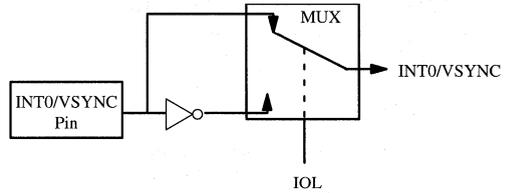
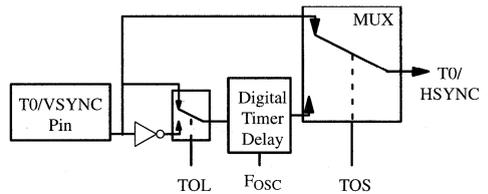

Figure 2. INT0/VSYNC input block diagram
Figure 3. T0/HSYNC input block diagram
- Vsync can generate an interrupt on either falling or rising edge. As 8051 core samples inputs one time per machine cycle, pulse duration less than $T_{osc} \times 12$ ($1\mu s$ using 12 MHz crystal) are not 100% detected. To allow Hsync pulses counting (duration > 150ns), pulses are lengthened up to 1 cycle period to be sampled by the 8051 core. Figure 2 and Figure 3 show the VSYNC and HSYNC input block diagrams.